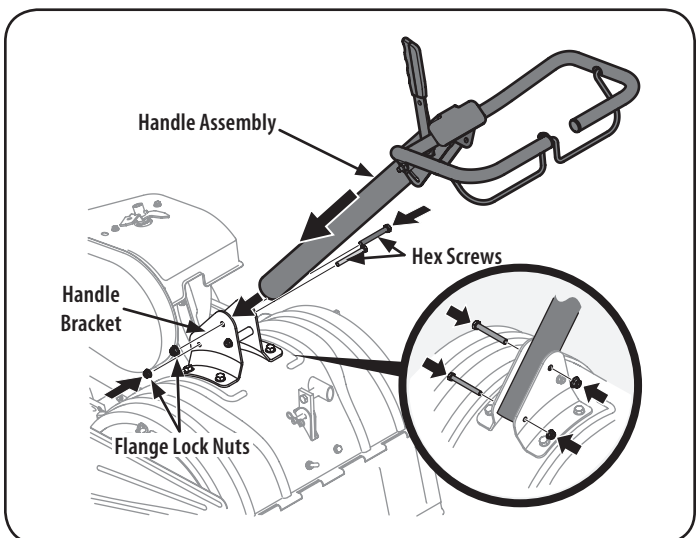

Figure 3
2. Place the handle assembly in position between the handle mounting brackets. See Figure 3.